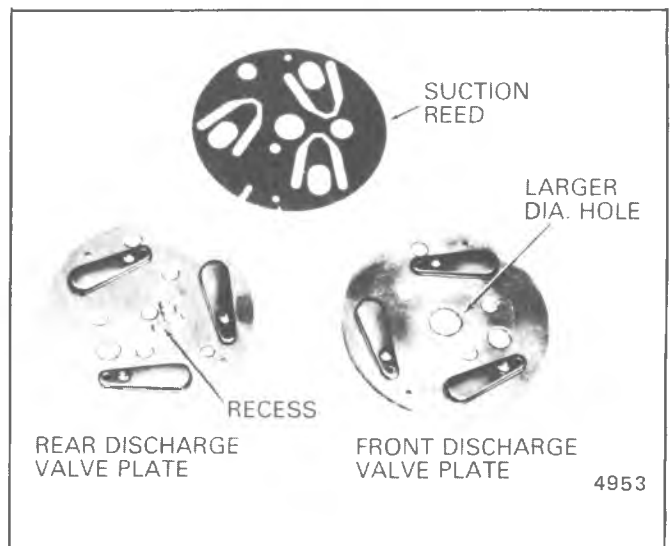

Figure 1D-65 Front and Rear A-6 Discharge Valve Plates
15. Now install new O-ring and bushing on **rear-end** of discharge cross-over tube (See Figure 1D-58).